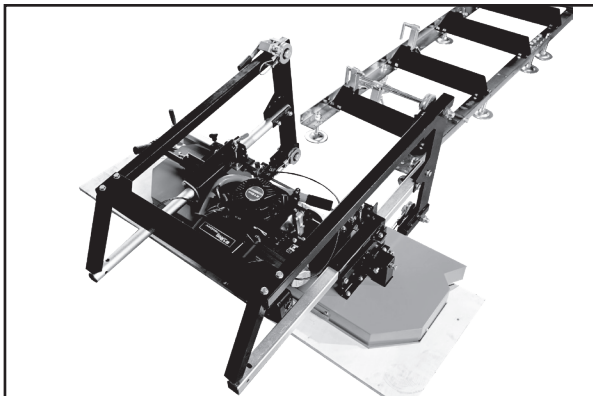
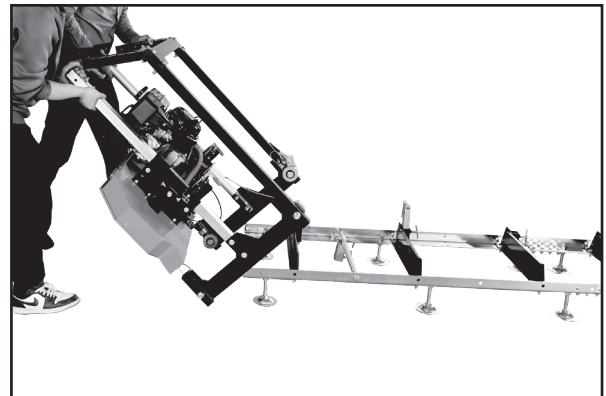
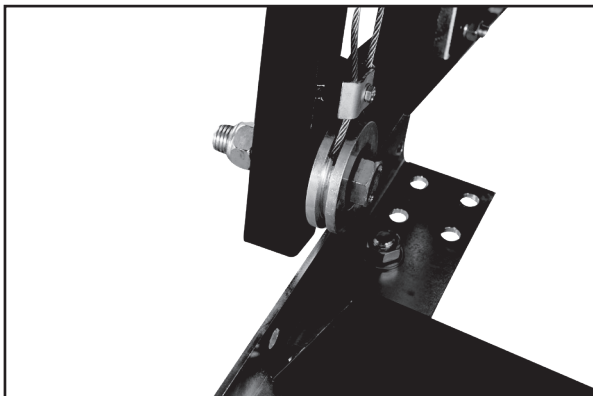

Fig. 26
Fig. 27
Fig. 28
Step 16: Place the Carriage onto the track. Move the Carriage with the Sawmill Head to the end of the track as shown (Fig. 26), with the Square Support Tube on the same side as the Long Log Stops. With two people using each Carriage Support Tube as a lever (Fig. 27), lift the Sawmill Head and gently set the Rear Carriage Wheels onto the Track (Fig. 28).